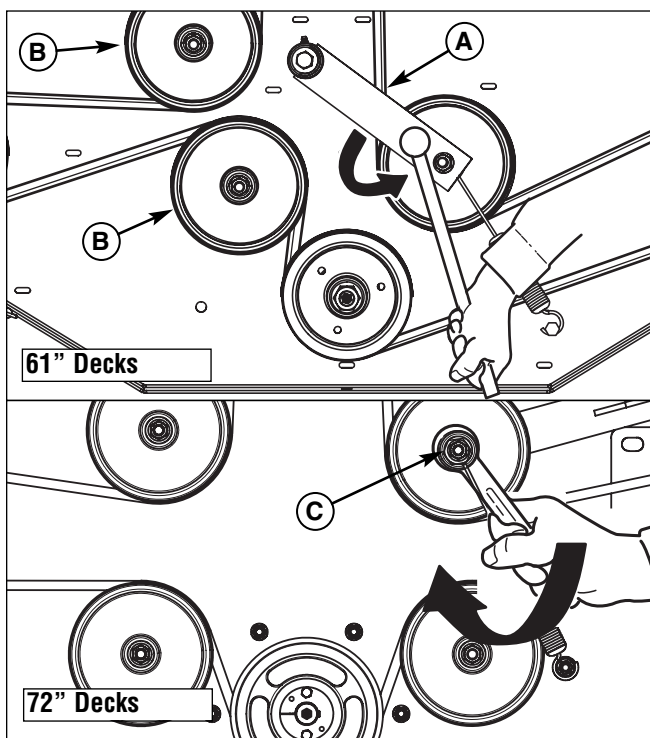

Figure 42. Mower PTO Belt
3. **For 61" Decks:** Using a 1/2" breaker bar, place the square end in the square hole located in the end of the idler arm (A, Figures 42). Carefully rotate the breaker bar COUNTER-CLOCKWISE, which will relieve the tension on the belt exerted from the idler arm.
**For 72" Decks:** Using the 3/4" combination wrench, place the box end on the nut (A, Figure 42) that secures the idler pulley located at the end of the idler arm. Carefully rotate the wrench CLOCKWISE, which will relieve the tension on the belt exerted from the idler arm.
6. **For 61" Decks:** Install the drive belt on the PTO pulley, the spindle pulleys and all idler pulleys except the stationary pulley (B, Figure 42). Carefully rotate the breaker bar COUNTER-CLOCKWISE and install the belt on the stationary idler pulley (B). Carefully release the tension on the breaker bar.
**For 72" Decks:** Install the drive belt on the PTO pulley, the spindle pulleys and all idler pulleys except the stationary pulley (B, Figure 42). Carefully rotate the combination wrench CLOCKWISE and install the belt on the stationary idler pulley (B). Carefully release the tension on the combination wrench.